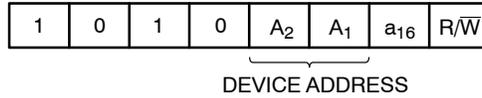

Figure 3. Slave Address Bits
The Master initiates data transfer by creating a START condition on the bus. The Master then broadcasts an 8-bit serial Slave address. The first 4 bits of the Slave address are set to 1010, for normal Read/Write operations (Figure 3). The next 2 bits, A2, A1, select one of 4 possible memory devices connected on a single I2C bus. The A2 and A1 bits must match the state of the external address pins. The seventh bit, a16 is the most significant internal address bit. The last bit,  $R/\overline{W}$ , specifies whether a Read (1) or Write (0) operation is to be performed. To select an internal memory location (data byte) a 17-bit address word is required: a16 bit from the Slave address byte followed by two address bytes.